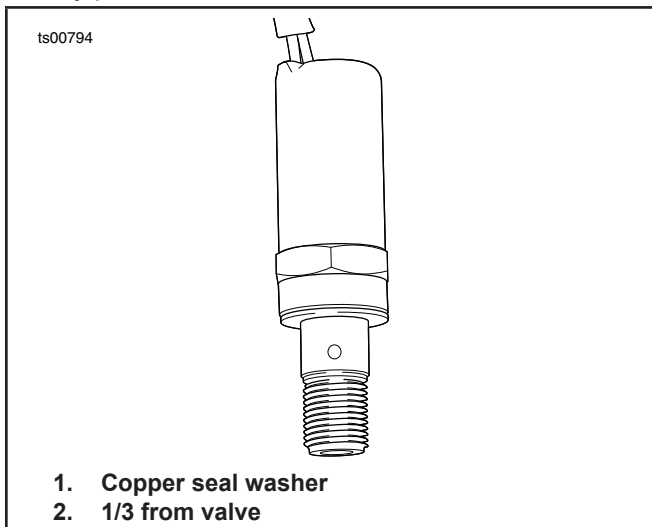

Figure 4. Typical ACR.
1. See Figure 4. Verify that the copper seal washer (1) is in place on the ACR.
2. Identify a circumference (2) around the threads of the ACR a third of the way up from the valve.